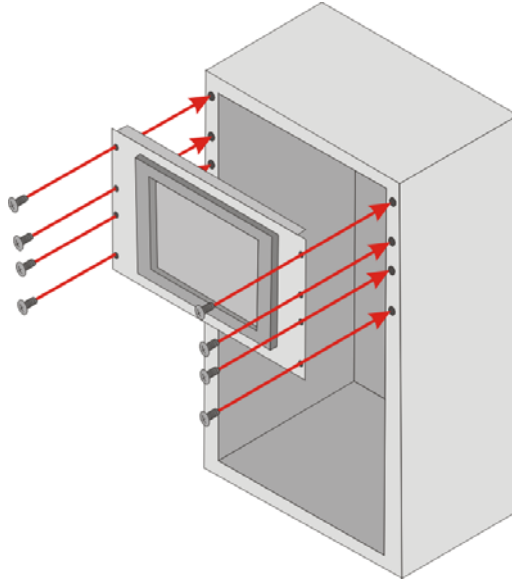

Figure 2-17: Install into a Rack/Cabinet
Step 4: Slide the flat panel PC with the attached rack/cabinet bracket into a rack or cabinet (**Figure 2-17**).
Step 5: Once the flat panel PC with the attached rack/cabinet bracket has been properly inserted into the rack or cabinet, secure the front of the rack/cabinet bracket to the front of the rack or cabinet (**Figure 2-17**).